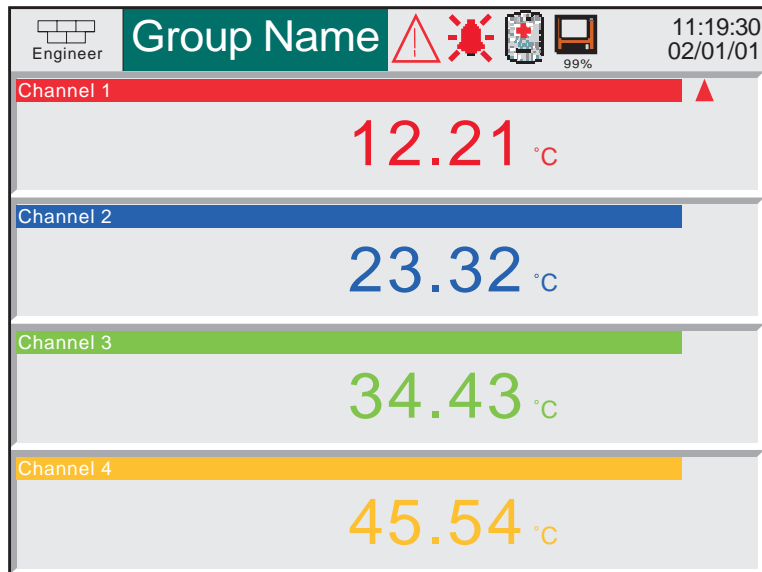

Figure 3.4.5a Numeric display mode (1 to 4 channels)
Numeric display mode shows the Process Variable (PV) values as digital values. The format (which is automatically selected) is based on the number of channels in the display group. Figures 3.4.5a and 3.4.5b, show typical examples of the one column (up to four channels) and two column versions (five or six channels) of this display mode, respectively. Within each version, the process variable display areas expand or contract to fill the screen. Trend History mode is not available from this display mode.